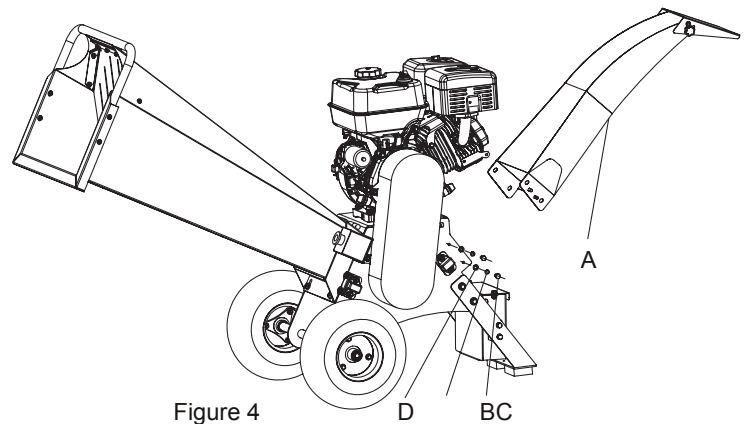

Figure 4
**ASSEMBLY CONT.****INSTALL DISCHARGE CHUTE - FIG 4**
1. Install the discharge chute (A) with the engine base by using M8x16 bolts (B) and Spring washer (C) and Flat washer (D) to tighten.